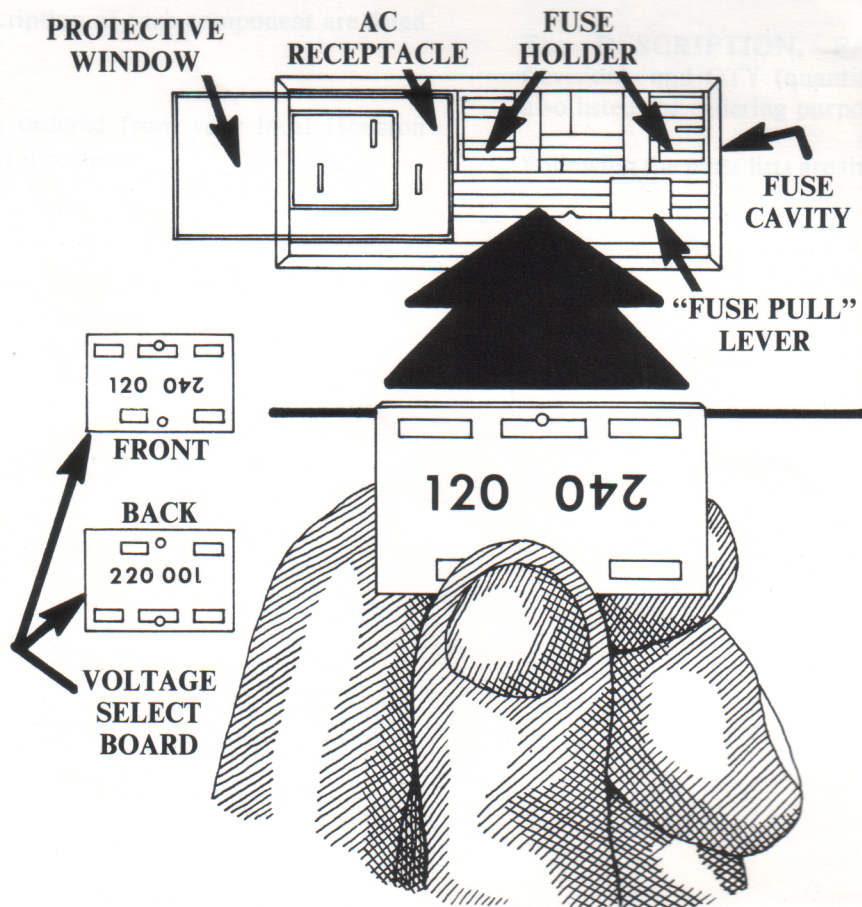

FIGURE 4-4
3. Slide the protective window to the left (see Figure 4-4).
As shown in Figure 4-4, one side of the voltage select board has the numbers "120" and "240" printed on it, and the other side has the numbers "220" and "100." The numbers indicate the operating voltage of 120, 240, 220, and 100 VAC. Hold the board in your hand so that the number
that reflects the desired operating voltage ("100," "120," "220," or "240") appears upright on the left side of the voltage select board. (The other number will appear upside down.) While holding the board in this position, slide it back into its place inside the fuse cavity (see Figure 4-4). The number that indicates the operating voltage will now be visible from the outside of the fuse cavity window.